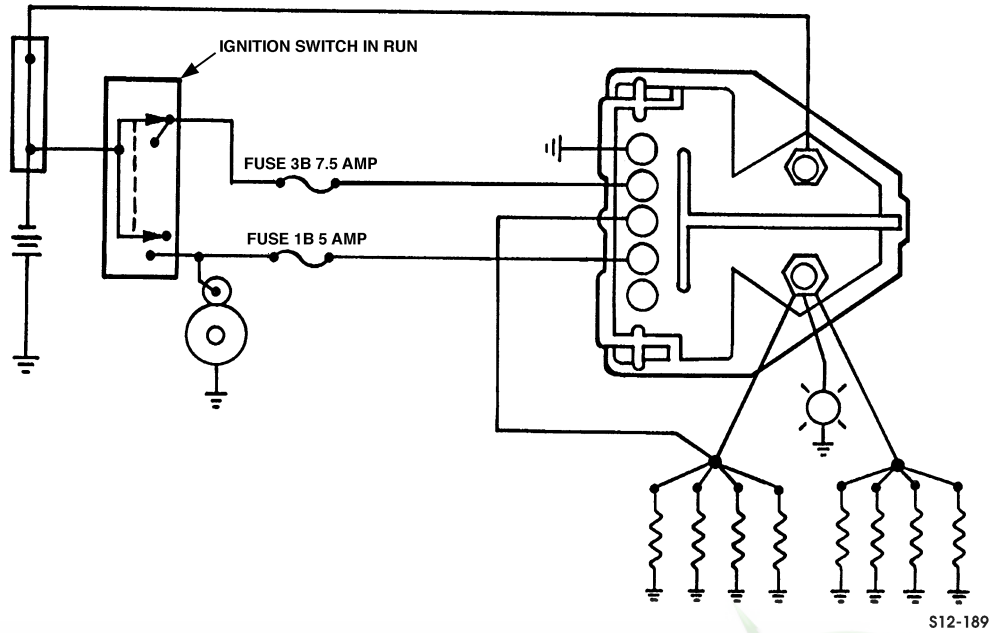

Figure 12-28: Glow Plug System Cycling - Before Cranking
4. When the ignition switch is positioned to RUN, the following things occur (Figure 12-28):